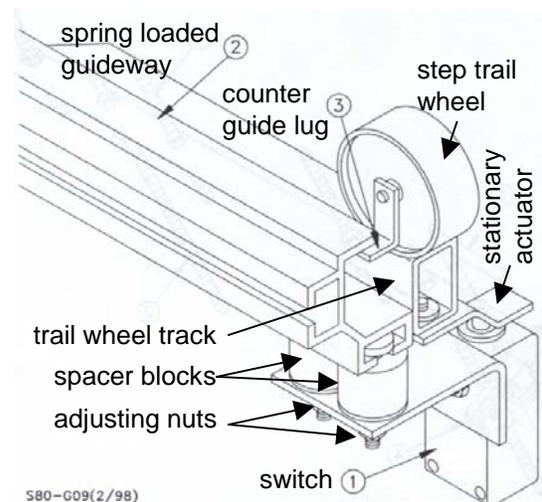

Figure 8-10i O&K Step Lift Monitor
89. What part in figure 8-10i will pull the guideway back in place when lifted?